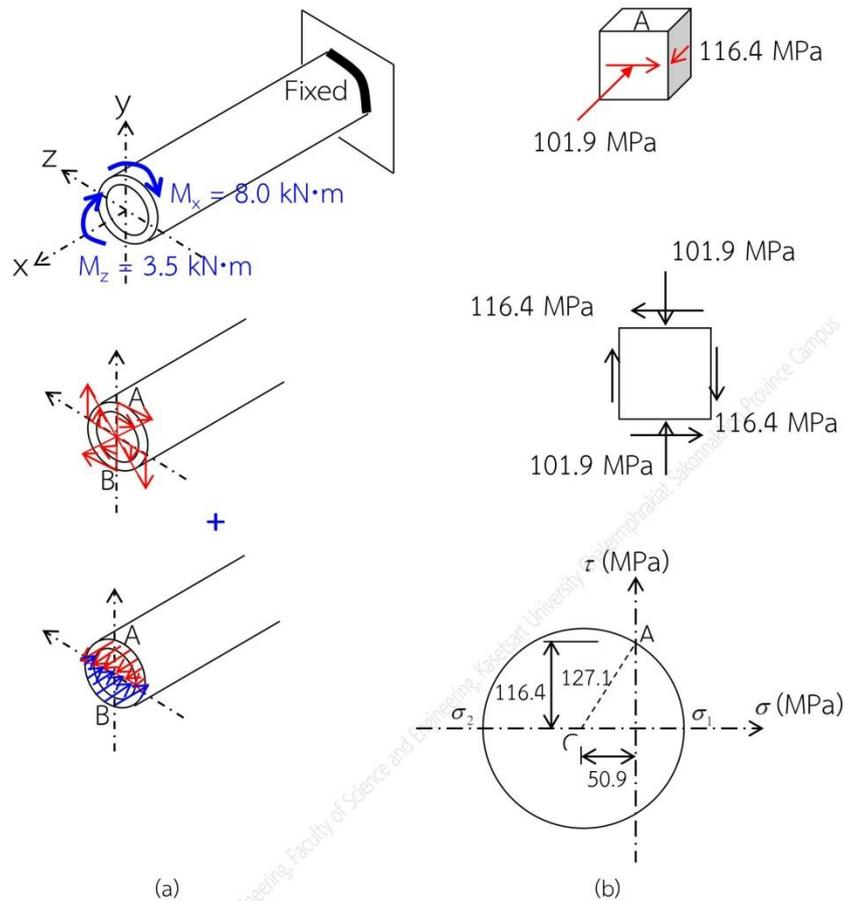

Figure Ex10.4 (a)
**Example - 8** The steel pipe as shown in Figure Ex10.4.a has an inner diameter of 60 mm and an outer diameter of 80 mm. If it is subjected to a torsional moment of 8 kN·m and a bending moment of 3.5 kN·m, determine if these loadings cause failure as defined by the Mises yield theory. The yield stress for the steel found from a tension test is  $\sigma_{yp} = 250 \text{ MPa}$ .